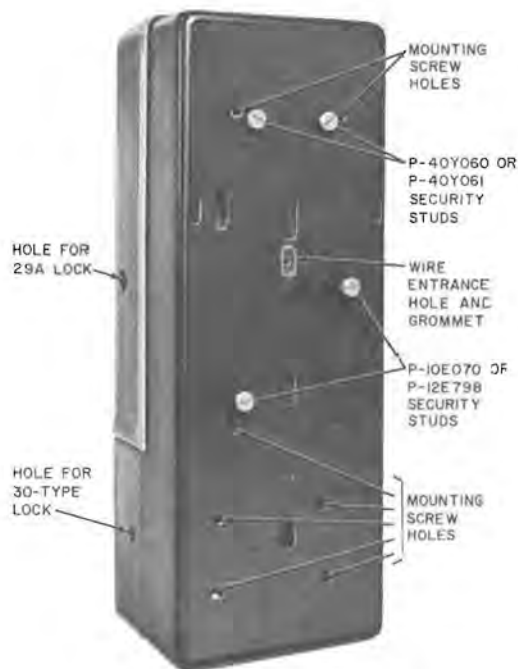

Fig. 2—Location of Mounting Screw Holes and Security Studs
2.04 Refer to Fig. 2 and Table B for security stud requirements.